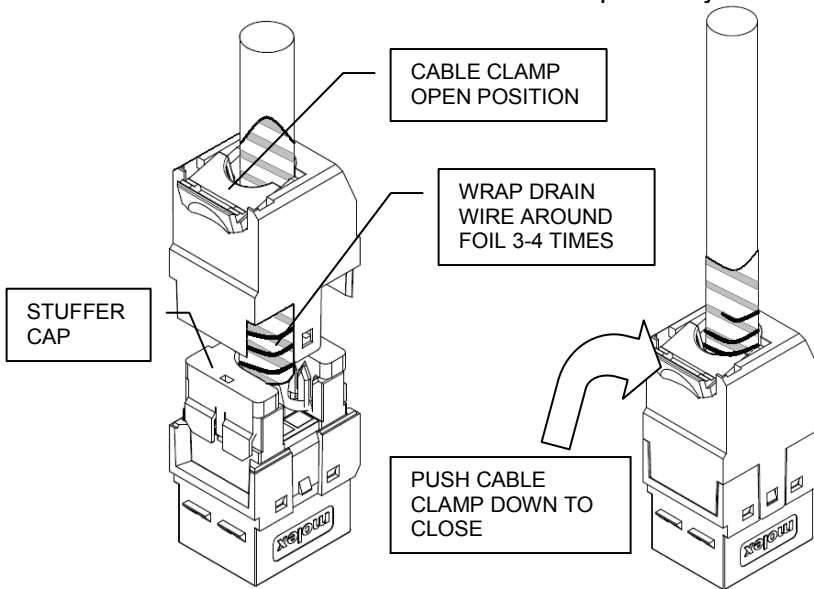

Fig. 5
1. Fit cable strain relief stuffer cap to IDT towers (see Fig. 5)
2. Wrap drain wire around cable foil 3 - 4 times (see Fig. 5)